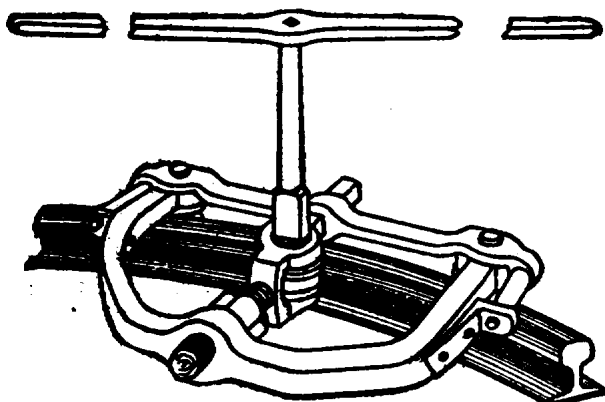
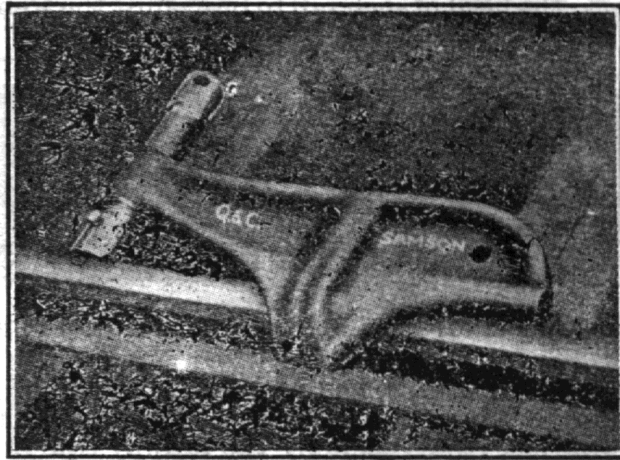

FIG. 14.—RAIL-CURVING MACHINE.
FIG 15.—Q. & C. SAMSON RAIL BENDER.
22. **Curving rails.**—Before any rail is spiked to its place in a curve it must be evenly bent from end to end, so that it will assume the proper curvature when lying free. This curving may be done by hammers, but that method is slow, and a rail-curving machine, shown in fig. 14, is more commonly used. Two forms of rail bender are shown in figs. 15 and 16. These are made with either screw or hydraulic power, and are used for bending rails rather than for curving them. For many curves no rail curving is necessary, the friction between the rail and the ties being sufficient to hold the rail in position. The extent of this flexibility depends on the